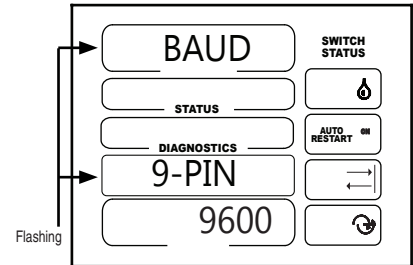

Figure 37-2
Settings include 300, 1200, 2400, 4800, 9600, 19200, 38400, 57600, and 115200 baud. The default is 9600 baud. See figure 37-2.
1. BAUD 9-PIN should be flashing. See figure 37-2.